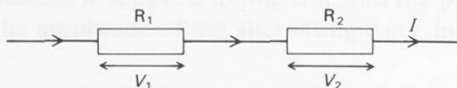

Figure I51
- 3(I)** In figure I51 the current in each resistor is the same.